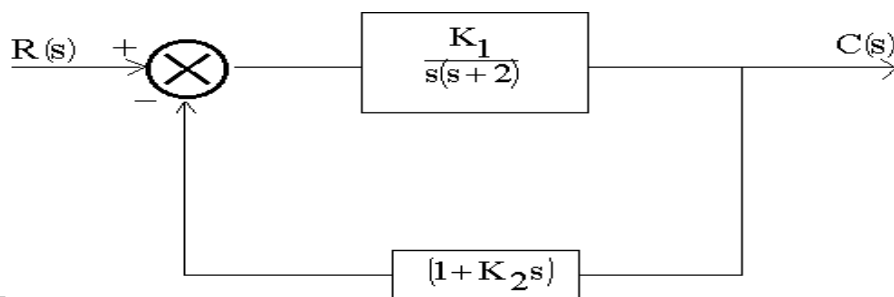

Fig.7
Q.5 a. For the system shown in the block diagram of Fig.7 determine the values of gain K_1 and velocity feedback constant K_2 so that the maximum overshoot with a unit step input is 0.25 and the time to reach the first peak is 0.8 sec. Thus obtain the rise time and settling time for 5% tolerance band.
Q8(a) Consider the control system shown in Fig 7 in which a proportional compensator is employed. A specification on the control system is that the steady-state error must be less than two per cent for constant inputs. Find K_c that satisfies this specification.